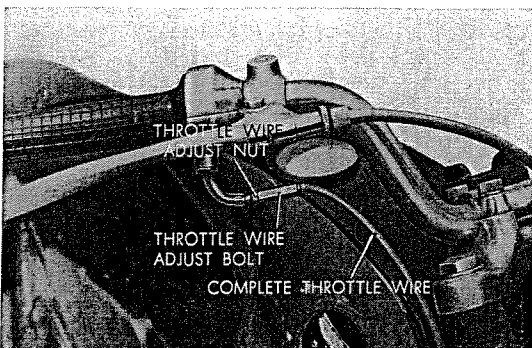

Fig. 4.7 Adjustment of throttle cable play
5. After installation, adjust the play of each cable. (Refer to Fig. 4.7 and 4.9)